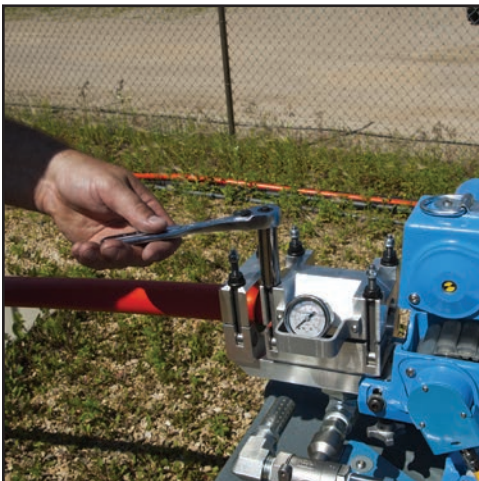

Figure 41. Tighten Air Block Cover
7. Close the Air Block Cover. Tighten spanner nuts securely, but do not over tighten (Figure 41). Use cross tightening procedure with the ratchet to secure completely.